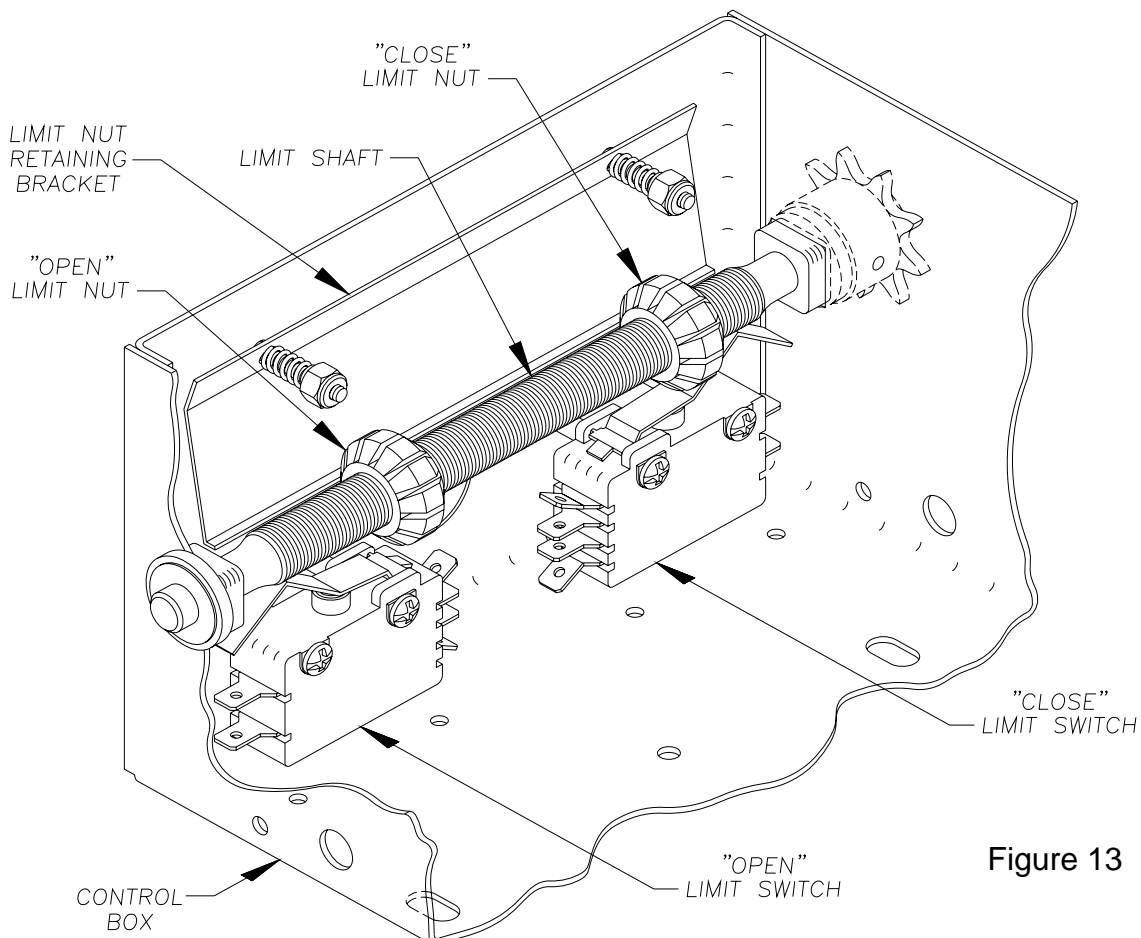

Figure 13
3. Refer to Figure 13. Depress the limit nut retaining bracket away from the slots in the limit nuts. Turn the CLOSE limit nut on the shaft until it engages the CLOSE Limit Switch. The switch will sound an audible “click” when engaged. If there are auxiliary present, the limit switch will be the second “click”. Release the retaining bracket and be sure that it engages in slots of both limit nuts.